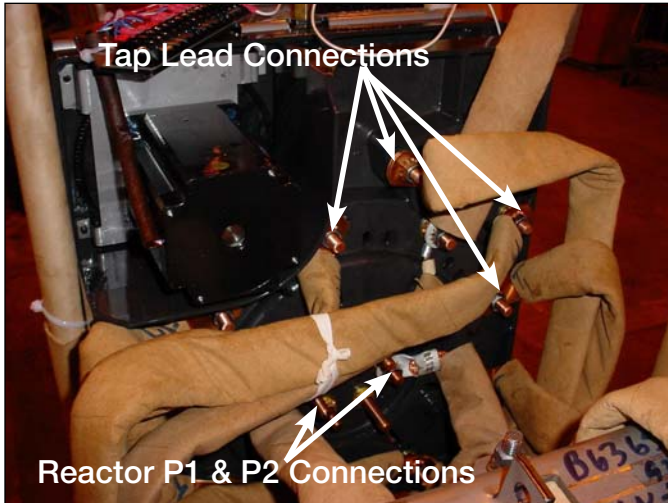

Figure 8.
- Use a deep well 9/16 inch socket with ratchet or a 9/16 inch wrench to loosen and remove all lead connections from the back of the tap changer contact board. See Figure 8.